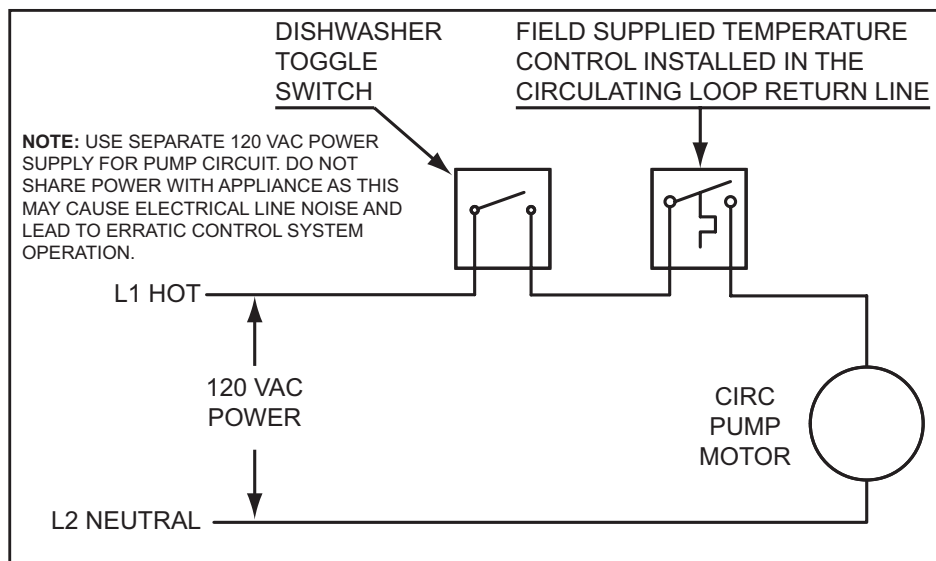

Figure 88. Recirculating Loop with Dish Washer and Toggle Switch
7. If a pump is being installed in a recirculation loop between the water heater and a commercial dishwasher wire according to *Figure 88* (page 102).
7. If a pump is being installed in a recirculation loop between the water heater and a commercial dishwasher wire according to **Figure 88** (page 102).